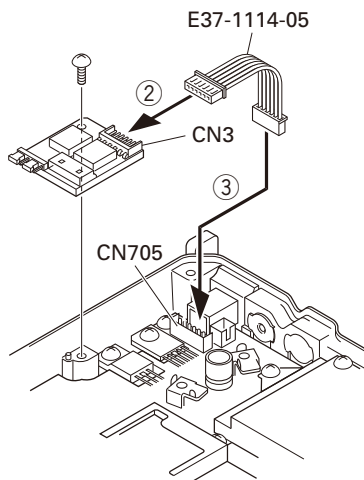

Fig. 2-2
3. Remove the 6-pin jumper connector inserted in the TX-RX unit (A/2) connector (CN705). (①)
4. Insert one side of the lead wire with connector (E37-1114-05) into the relay unit connector (CN3) (②) and the other side into the TX-RX unit (A/2) connector (CN705) (③).
5. Place the relay unit at the position shown in Figure 2-2 and secure it to the chassis with a screw.
6. Remove the cap on the rear of the chassis by pushing it from the inside with your finger. (④)
7. Pass the 6-pin connector of the cable (E37-1113-25) through the chassis hole (⑤) and insert the bush into the chassis hole.
8. Rotate the bush of the cable 90 degrees counterclockwise as viewed from the rear of the chassis. (⑥)
9. Insert the 6-pin connector of the cable into the connector (CN2) of the KAP-2 relay unit. (⑦)